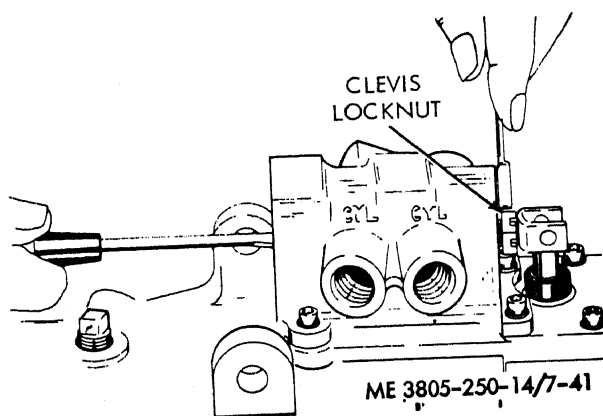

Figure 7-41. Tightening clevis locknut.
(2) Tighten the clevis rod locknut while maintaining the valve spool position by keeping the screwdriver in the slot (fig. 7-41). Secure with the cotter pin.